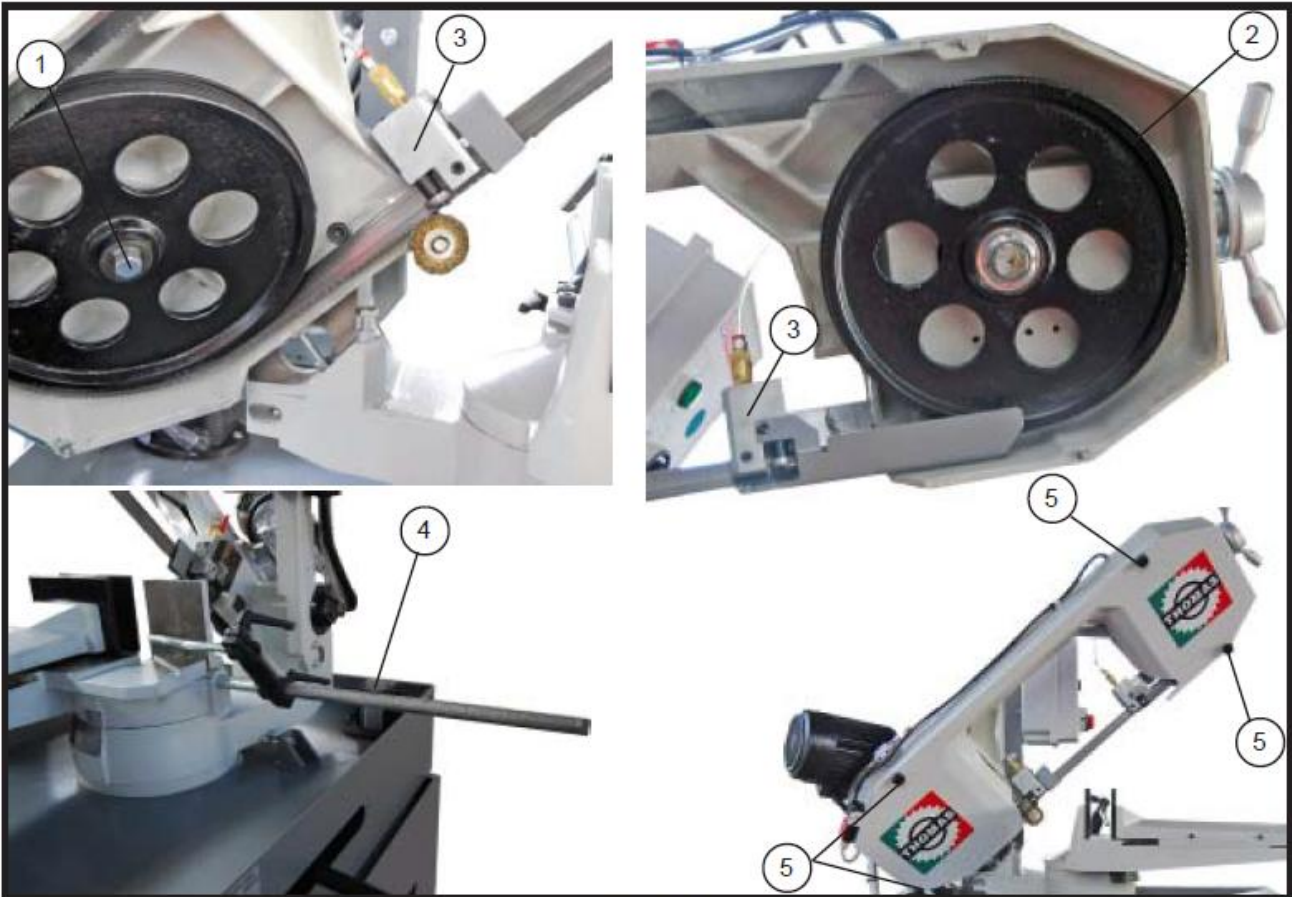

Fig. 5-12
- Check and tight the screw (1 fig. 5-12) holding motor flywheel.
- Check and tight the ring nut (2 fig. 5-12) of the return flywheel.
- Check wear blade-guide carbide pads (3 fig. 5-12).
- Check and tight the screws (4 fig. 5-12) holding the electro-pump and the screws (5 fig. 5-12) of the sawframe cover.